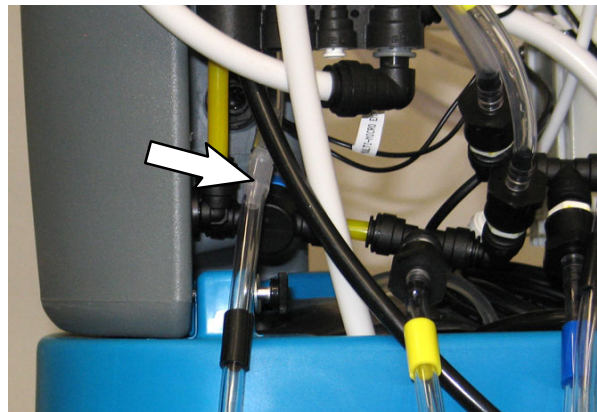

FIG. 31
30. Connect the yellow hose assembly vent hose (black marking) to the os3 yellow vent hose. (Fig. 31)